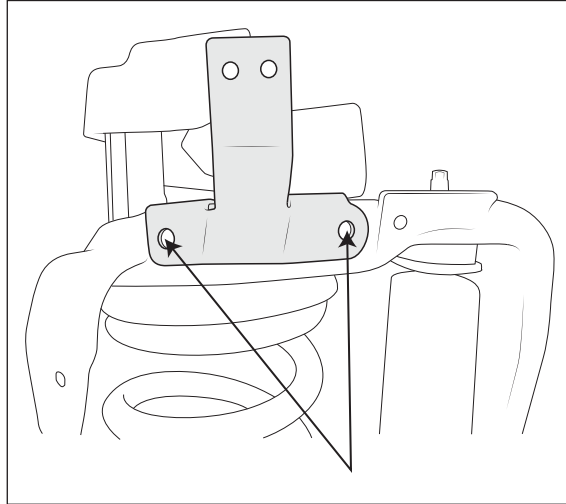

Figure 5
3. Install reservoir bracket. These are sided, the tabs should point inward toward center of vehicle and the longer leg of the mount toward the rear. Place it on spring tower so that the flanges sit on top of the tower edge and the mounting tabs are centered between welded gussets (fig. 5). **NOTE:** some vehicles with excessive welding will need weld ground flush for bracket to sit flush.